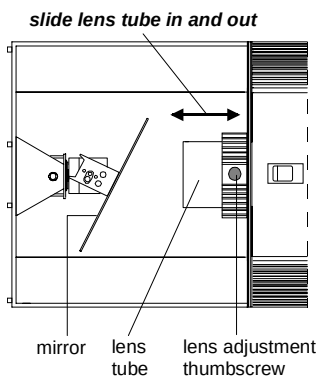

Figure 2-12. Lens tube adjustment
5. Loosen the lens adjustment thumbscrew and carefully slide the lens tube in and out while watching the beam projected on the flat surface (see Figure 2-12). When the beam has a sharp edge, tighten the thumbscrew to secure the lens tube in place.